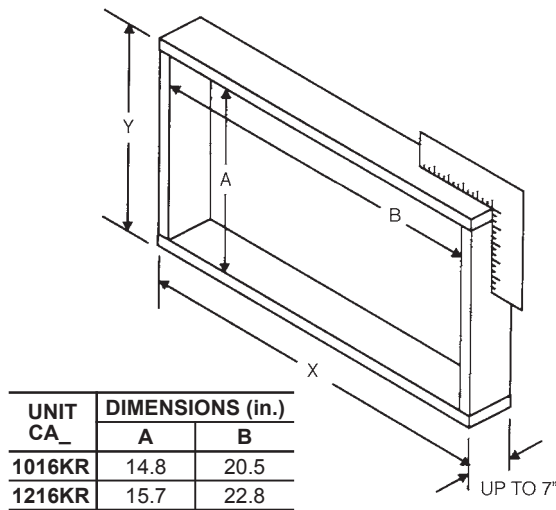

FIGURE 20 — FRAME CONSTRUCTION
7. Follow all local building codes when building and installing frame. Build a wooden frame that will be placed around the unit in the wall. The frame will reinforce the hole in the wall where the air conditioner is installed and is used to secure the air conditioner to the wall. The frame should have an inner dimension of 20.5-in. width by 14.8-in. height for CA1016KR air conditioners or 22.8-in. width by 15.7-in. height for CA1216KR air conditioners to ensure that the air conditioner will fit inside the frame. See Fig. 20. The depth of the frame should approximately match the depth of the wall. The thickness of the frame will need to be added to the dimensions to determine the size of the hole in the wall.